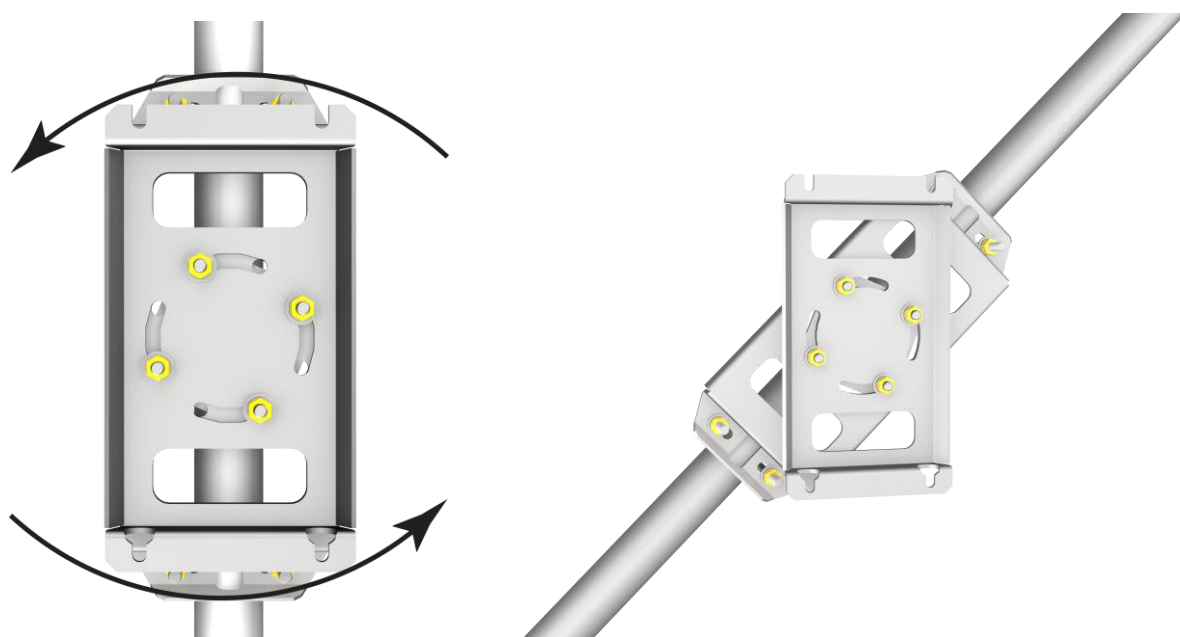
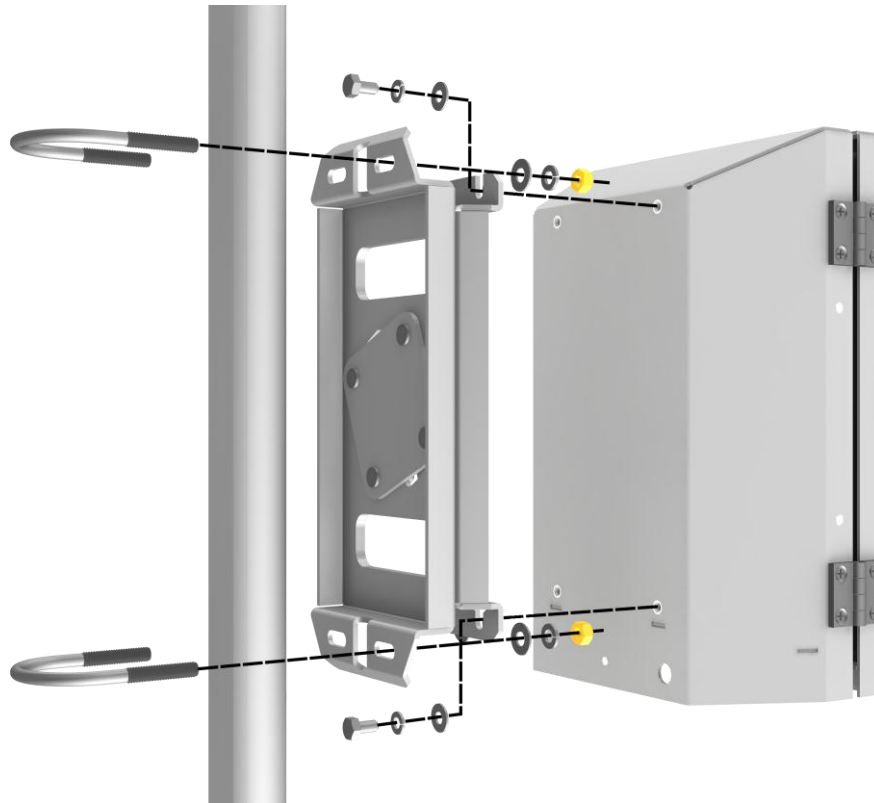

Figure 6-2. EC100 enclosure mounting bracket mounted on a vertical mast (left) and a tripod leg (right)
Figure 6-3. Exploded view of mounting the EC100 enclosure
- g. Attach the EC100 electronic enclosure to the mast, tripod leg, or other part of the mounting structure. To do this, attach the EC100 enclosure mounting bracket (p/n #26604) to the pipe by loosely tightening the u-bolts around the pipe. The u-bolts are found in the mesh pocket inside the EC100 enclosure. If the pipe does not run vertically up-and-down (e.g., if you are attaching the enclosure to a leg of a tripod), rotate the bracket to the side of the pipe. As the enclosure must hang up-right, angle adjustments may need to be made by loosening the four nuts and rotating the bracket plates relative to one another. If the necessary angle cannot be reached in the given orientation, the four nuts may be removed and the top plate indexed by 90 degrees to allow the bracket to travel in the other direction (see Figure 6-2). Once adjusted, tighten all the nuts. Finally attach the EC100 enclosure to the bracket by loosening the bolts on the back of the enclosure, hanging the enclosure on the mounting bracket (it should slide into place and be able to securely hang from the bracket), and tightening the bolts (see Figure 6-3).